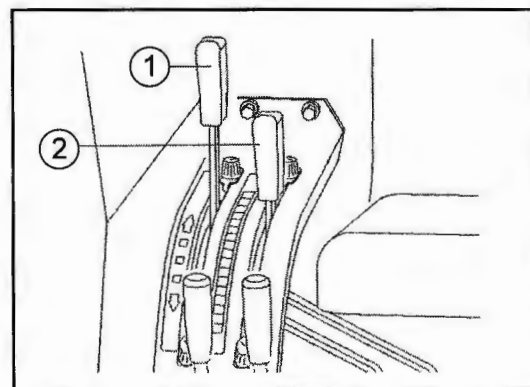

Fig. 21-3 - Mixed Position & Draft Control
When the implement is set at the desired depth, gradually shift the position lever (1) until the link arms start to rise. (See Fig. 21-3).